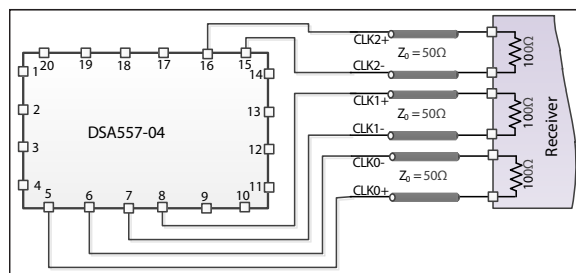
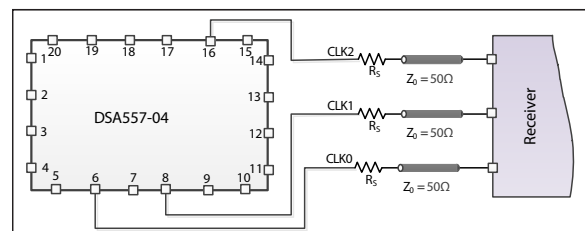
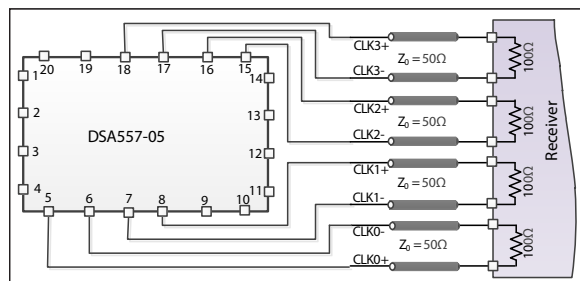
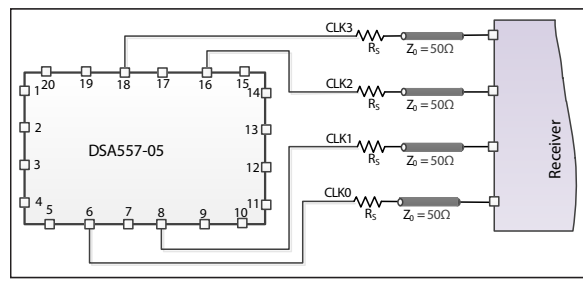

FIGURE 2-5: LVDS Outputs.
FIGURE 2-6: LVCMOS Outputs.
FIGURE 2-8: LVDS Outputs.
FIGURE 2-9: *LVC MOS Outputs.*
- Added Figure 2-2, Figure 2-3, Figure 2-5, Figure 2-6, Figure 2-8, and Figure 2-9.